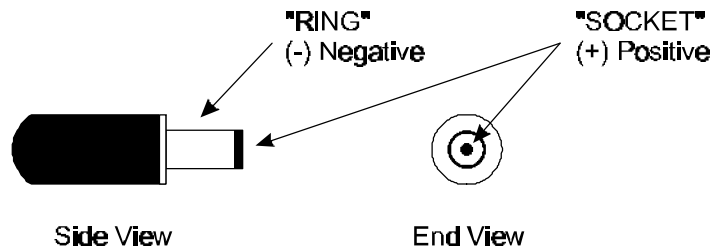

Figure 8. HeadMouse for Portables input power connector, inner diameter 2.5mm.
The input power connector used by the HeadMouse is a standard 2.5-mm inner diameter coaxial connector and is illustrated in Figure 8.
- Using the HeadMouse interface cable (9-pin, PS/2, ADB or USB), connect "PORT A" on the Interface Unit to the host computer port that is normally connected to your desktop mouse. *Please note that PS/2 devices should be connected to the host computer at boot time for proper initialization. If the PS/2 device is disconnected after initialization, it may not function again until it is re-initialized.* See the wiring diagram in Figure 8 and illustration of the Interface Unit rear panel in Figure 9.